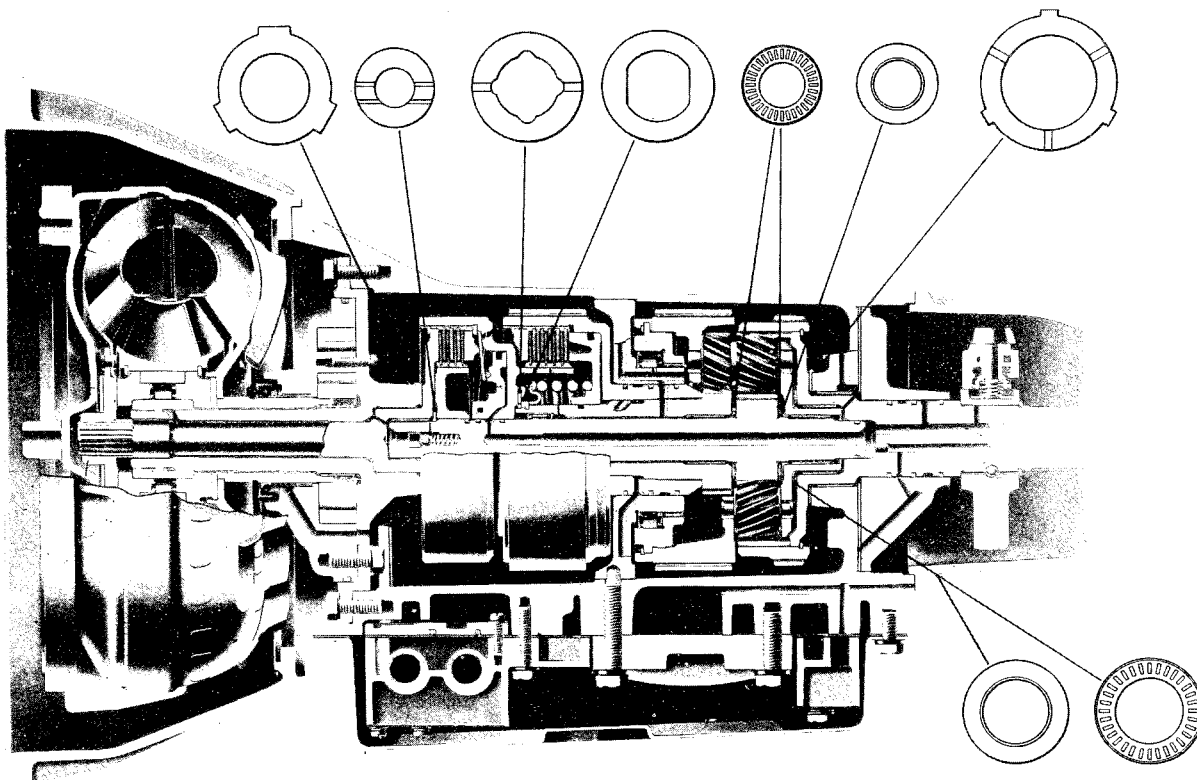
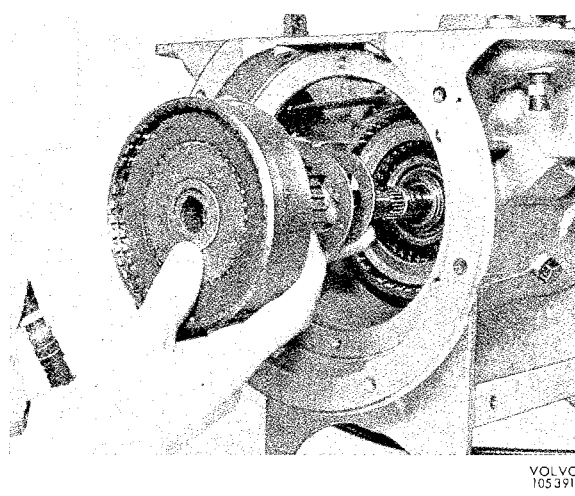

Fig. 4-92. Location of thrust washers
Fig. 4-108. Installation sequence, front clutch cylinder thrust and backing washers
3. The thrust washer for driven shaft, see Fig. 4-92, is stuck onto the transmission case with vaseline. The driven shaft complete with ring gear is then installed into the transmission case.
17. Install the clutch assembly with its two different thrust washers in the gearbox, see Fig. 4-108. Be careful not to damage the oil sealing rings. For identifying the thrust washers, see Fig. 4-92.